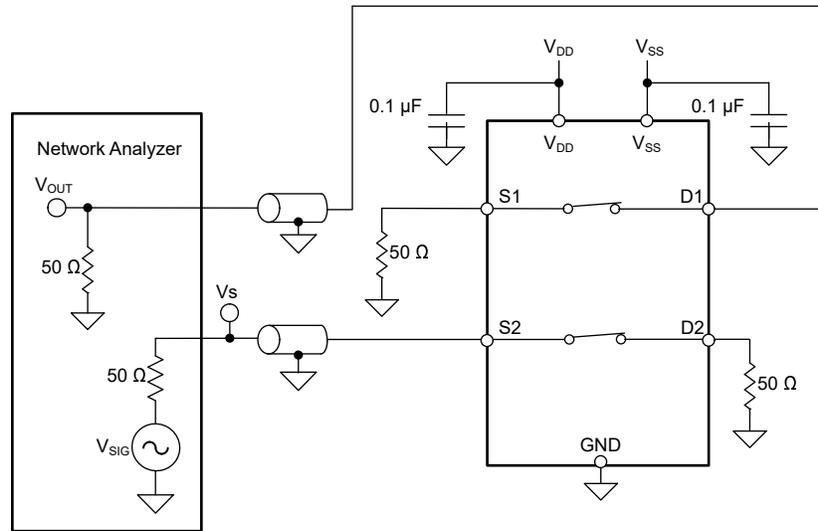

图 7-9. Crosstalk Measurement Setup
Crosstalk is defined as the ratio of the signal at the drain pin (D) of a different channel, when a signal is applied at the source pin (S_x) of an on-channel. 图 7-9 shows the setup used to measure, and 方程式 3 shows the equation used to calculate crosstalk.